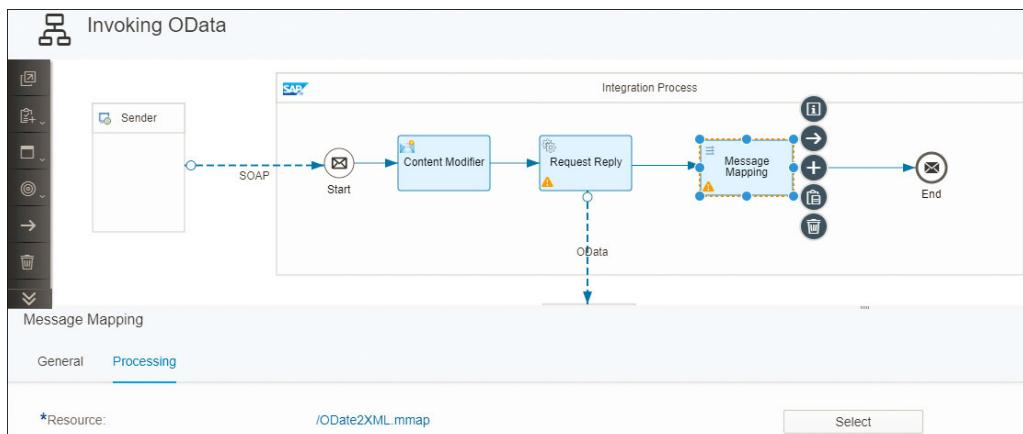

Figure 9.2 Selecting the Message Mapping Step to Be Enhanced with a UDF
3. Select the **Message Mapping** step that should be enhanced with the UDF, as shown in Figure 9.2.
4. Select the **Processing** tab, and click on the /ODate2XML.mmap link (see Figure 9.2) to open the mapping editor.